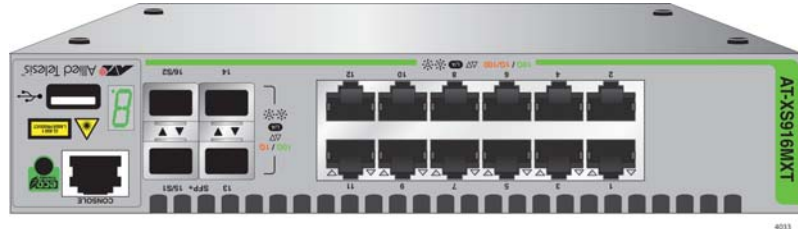

Figure 26. Turning the Switch Upside Down
4. Place the switch upside-down on a table. Refer to Figure 26.